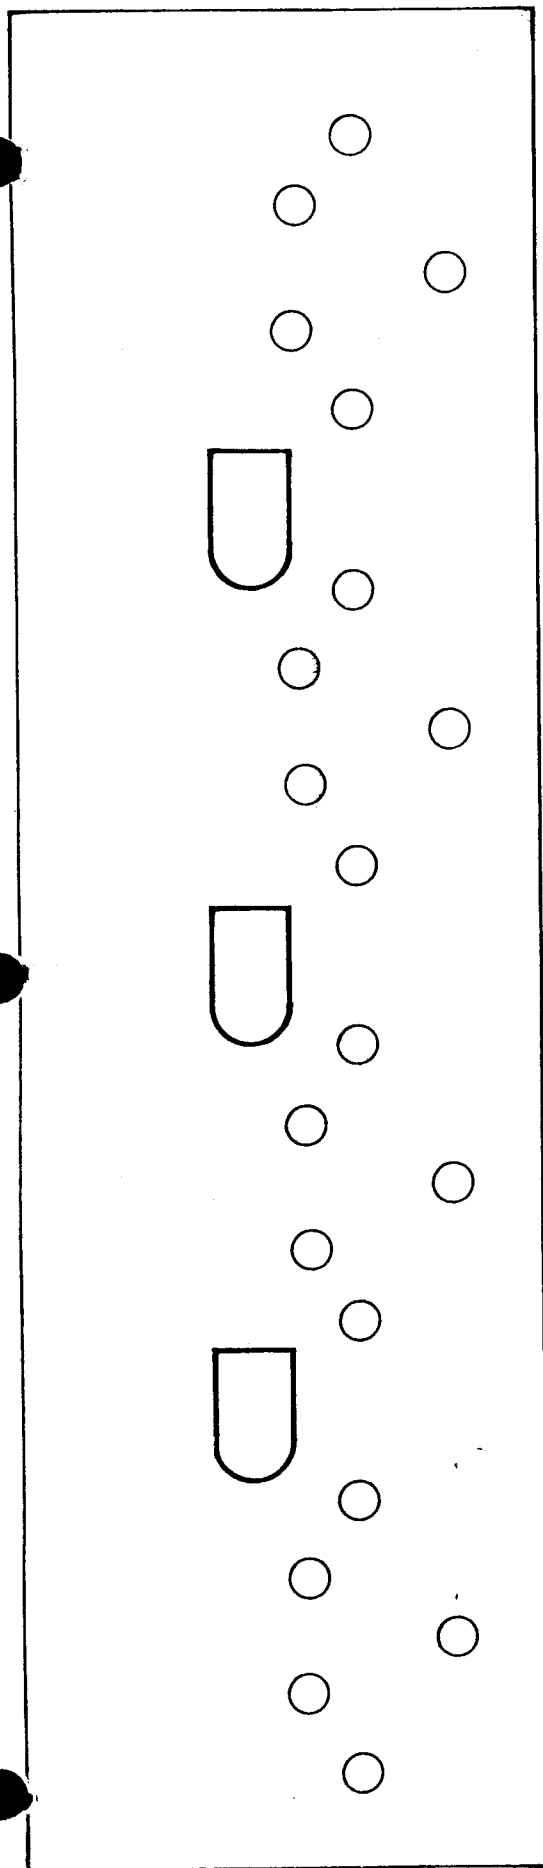

Figure 5. I.F. Alignment Cover Modification Template
2. Obtain an extra I.F. cover and modify per Figure 5.